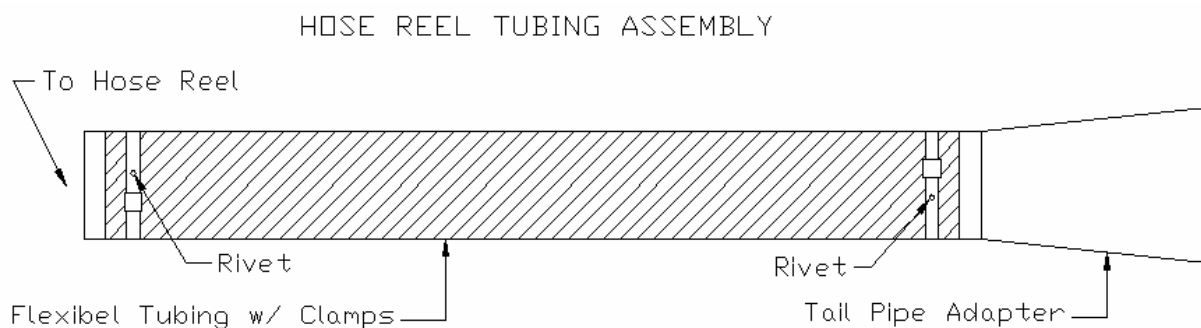

FIG 3
7. Assemble the flexible tubing assembly as shown in FIG 3.